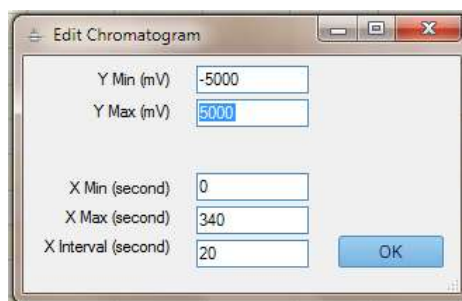

Figure 4-21: Edit Chromatogram Dialog Box
- *Edit Chromatogram* – presents a dialog box to set the x-axis and y-axis minimum and maximum as well as the X axis interval (Figure 4-21).